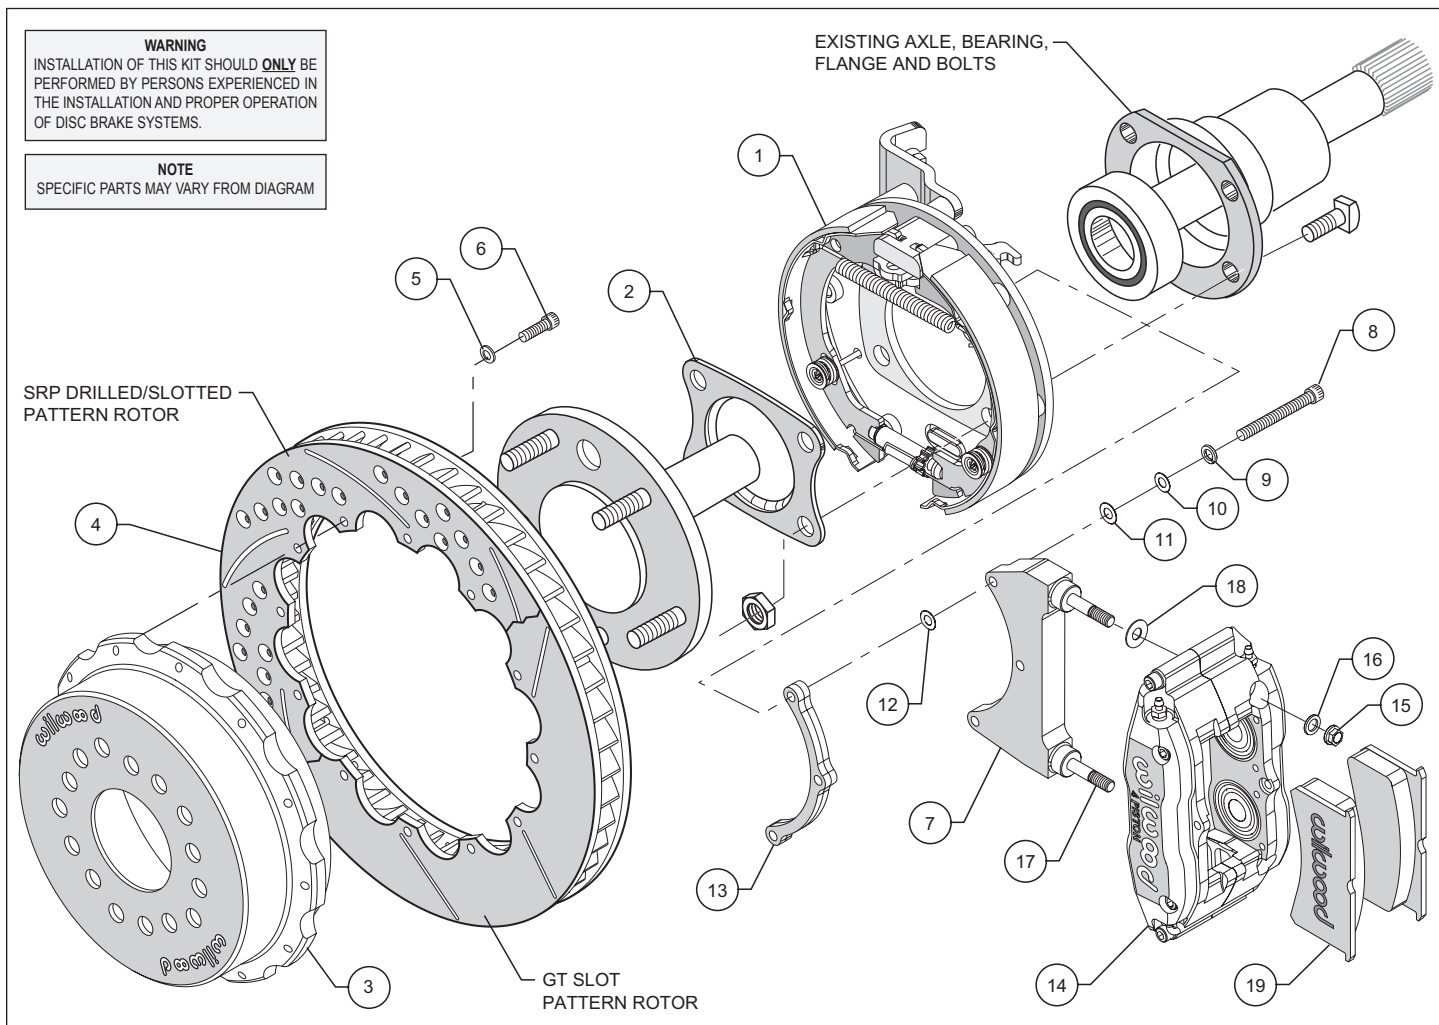

Figure 1. Typical Installation Configuration
A. **Full Circle Retainers** require the utilization of a qualified machine shop to press off the axle bearing and OEM retainer. Then have machine shop install new retainer (2), supplied with bracket kit with lip facing toward bearing, reference Figures 1, 4 and 5 (we suggest that you install a new bearing at this time, not supplied with kit).
B. **"U" Retainers** require the removal of the OEM retainer by cutting or grinding a notch in the retainer to facilitate removal. Once OEM retainer is removed, install new retainer (2) supplied with bracket kit with the "U" opening facing up and the lip facing toward bearing, reference Figures 1, 4 and 5.
•**NOTE:** Please reference the caution statement at the beginning of the assembly instructions. The caliper mounting bracket assembly (7) should be installed first with clean, dry threads on the mounting bolts (8). Install the bracket from the rear side of the bracket kit assembly (1) by sliding bolt (8) through lock washer (9), flat washers (10 and 11) bracket (7), shim washer (12) and finally through the spacer (13), see Figure 1. **NOTE:** End of bolt should not exceed inside face of insert. The bracket must tighten squarely against the back side of the bracket kit assembly (1). Inspect for interference from casting irregularities, machining ridges, burrs, etc. Use one thin shim (12) between the bracket (7) and spacer (13) during initial trial fitting.
• Install one washer (18) over each pre-installed stud (17) on the radial mount bracket (7). Slide the caliper (14) in place over the studs and rotor, then install the washer (16) and lock nut (15) to hold the caliper in place. The caliper bleed screws should be pointing up. Snug the lock nuts (15) and check that the rotor (4) is centered in the caliper (14). Add or subtract .015" shims (12) as necessary between the caliper mounting bracket (7) and the spacer (13) to center the caliper (9).
• Remove the caliper center bridge pad retainer bolt, nut, and tube from the caliper. Slide the brake pads (19) into place. They should install easily without interference. Check that the outside radius of the brake pad is aligned with the outside diameter radius of the rotor face. Add or subtract shims (18) between the caliper (14) and mount bracket (7) to gain the proper alignment. Reinstall the center bridge pad retainer tube, bolt, and locknut. The locknut should be snug without play in the bolt or tube. Be cautious not to over tighten.
• Adjust the parking brake shoes outward (using a drum shoe adjustment tool available at your local auto parts store) while spinning the hat (3) until a slight drag is felt against the hat/drum. Remove the lug nuts that were holding the hat/rotor in place. Install the wheel and lug nuts. Check to see that the wheel rotates freely without interference.
• Once all clearances have been checked, remove the wheel, caliper, hat/rotor from the bracket kit assembly (1). Secure the caliper mounting bracket (7) to the bracket kit assembly (1) using red *Loctite*® 271. Torque bolts (8) to 180 **in-lb**. Reinstall the hat/rotor assembly and again use lug nuts to hold it in place. Lubricate caliper mounting studs and nuts with lightweight oil, reinstall the caliper, torque the caliper nuts (15) to 30-35 **ft-lb**.